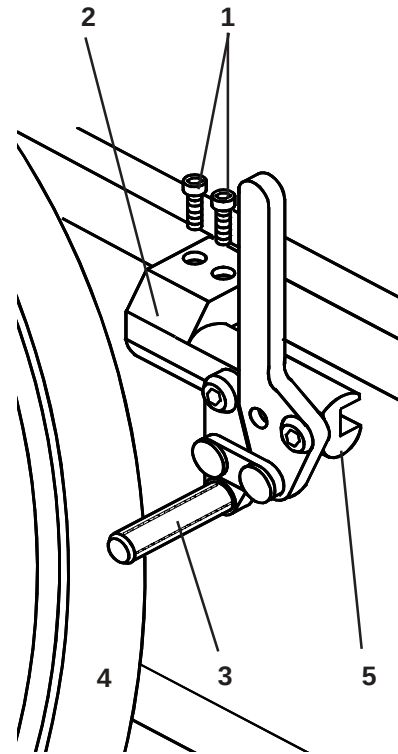

Fig. 37
To adjust, loosen the screws (1) on the top of each clamp (2). Using a 5mm Allen key turn one of the screws anticlockwise $\frac{1}{4}$ turn (Fig. 37). Repeat the process with the second of the two screws. Loosen the screws until the clamp can slide freely. Slide the clamp towards the rear wheel until the grip bar (3) embeds into the tyre (4) approximately 4mm ($\frac{3}{16}$ ") when in the locked position. Tighten the screws to a torque setting of 15Nm. Some adjustments to the wheel lock position can be accomplished without moving the clamp. To adjust, loosen the two screws as above. Slide the mounting bar (5) forward or backwards and rotate it to the correct angle position. The grip bar should embed into the tyre approximately 4mm ($\frac{3}{16}$ ") when in the locked position. Tighten the screws to a torque setting of 15Nm.